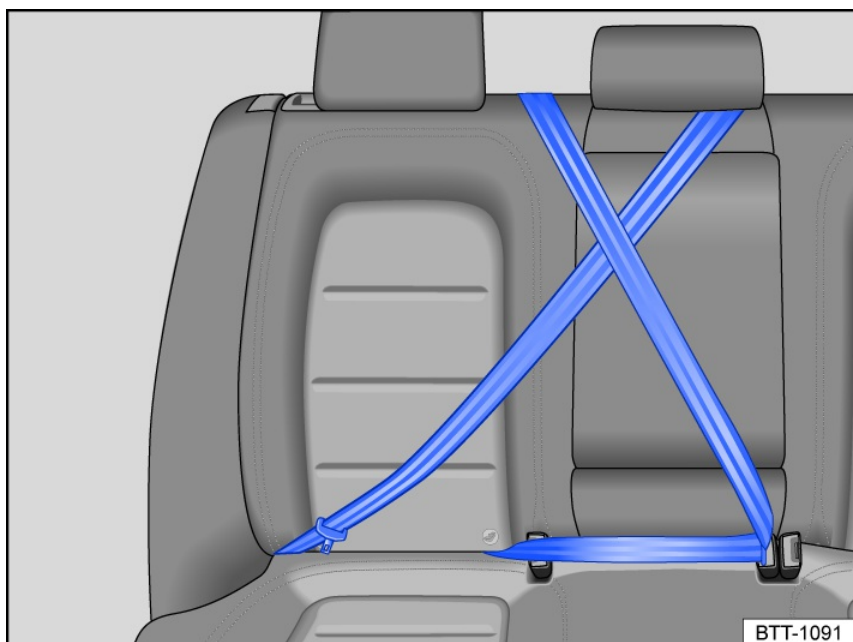

Fig. 44 Keep any safety belts that are not being used away from children.
- Position the safety belt around the head restraint in the center seating position fig. 44.
- Fasten the safety belt fig. 44.